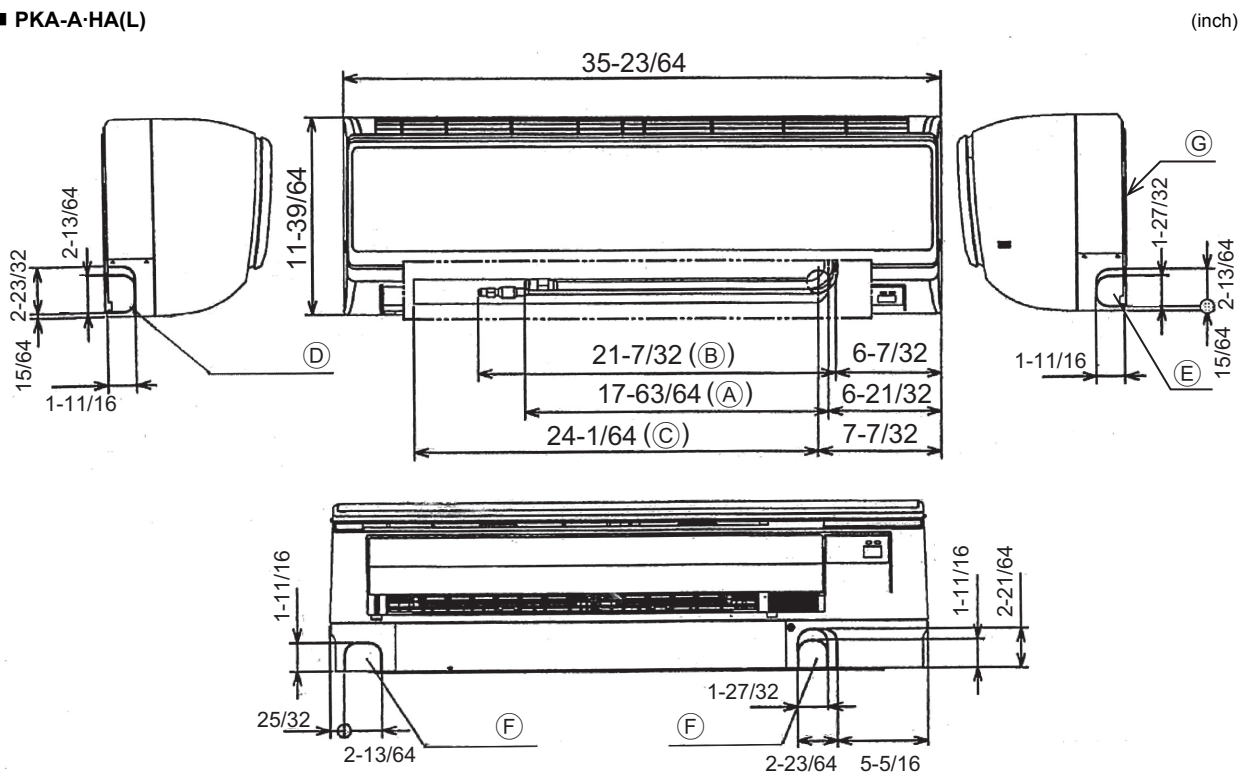

Fig. 4-2
4.3. Positioning refrigerant and drain piping (Fig. 4-2)
- (A) Gas pipe * Indicates the condition with accessories mounted.
- (B) Liquid pipe
- (C) Drain hose
- (D) Left-side piping knockout hole
- (E) Right-side piping knockout hole
- (F) Lower piping knockout hole
- (G) Mount board ①